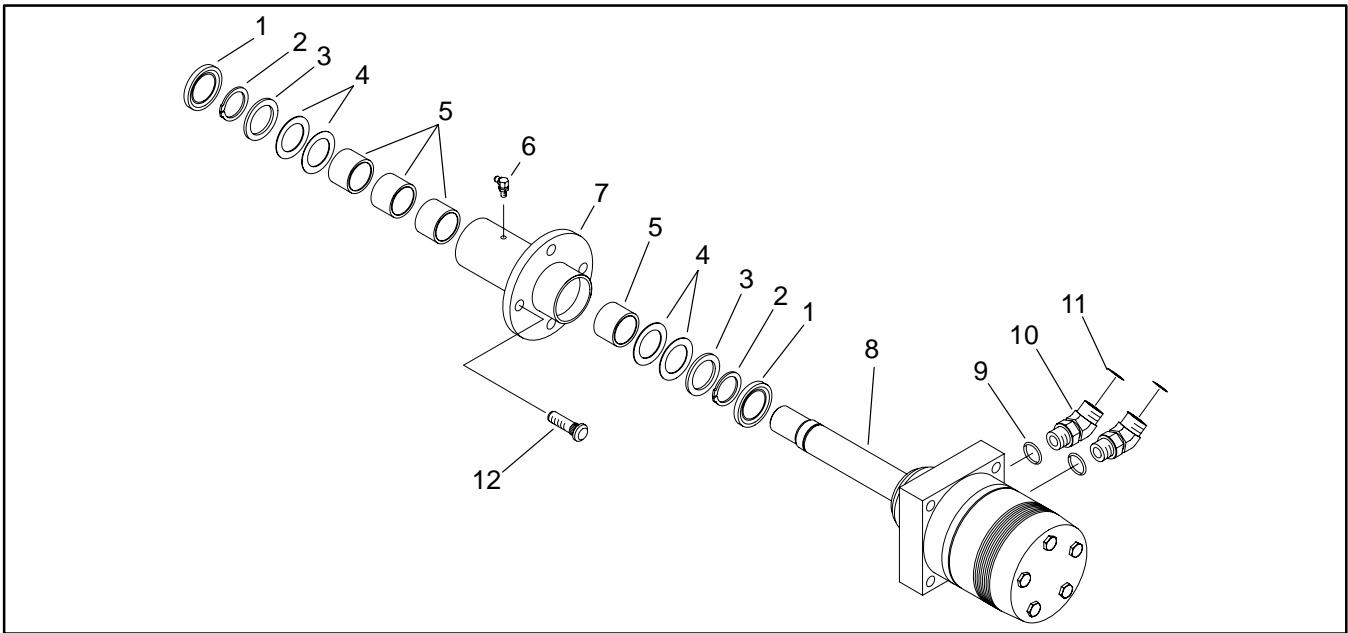
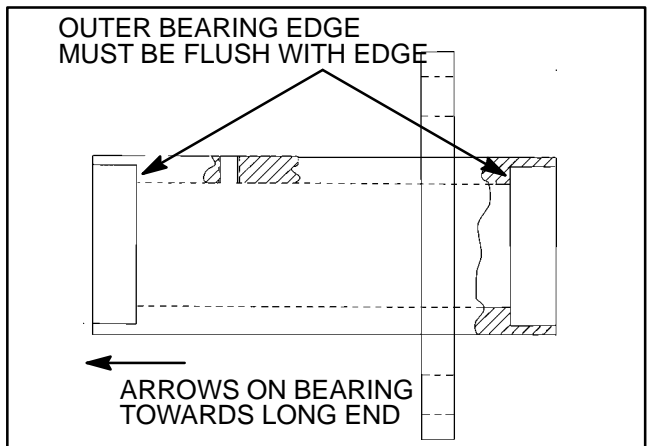

Figure 5
Figure 6
**Disassembly (Fig. 5)**
1. Remove grease seal (1) and retaining ring (2) from the long end of hub (7).
2. Remove washer (3), two thrust washers (4), and hub (7) from the hydraulic motor (8) shaft. Remove remaining two thrust washers (4), washer (3), retaining ring (2), and grease seal (1) from the shaft.
3. If drive studs (12) are bent or damaged, press studs from the wheel hub (7).
4. Press roller clutch bearings (5) from the hub (7).
**Assembly (Fig. 5)**
1. If drive studs (12) were removed, press new studs into the wheel hub (7).
2. Press roller clutch bearings (5) into the hub (7) as follows (Fig. 6):
**Note:** The arrow on the side of the clutch roller bearings (5) should point to the long side of end of the hub (7).
3. Grease inner edge of the new grease seal (1) with No. 2 multipurpose lithium base grease. Slide seal onto motor shaft past groove closest to the motor. Install retaining ring (2) into groove.